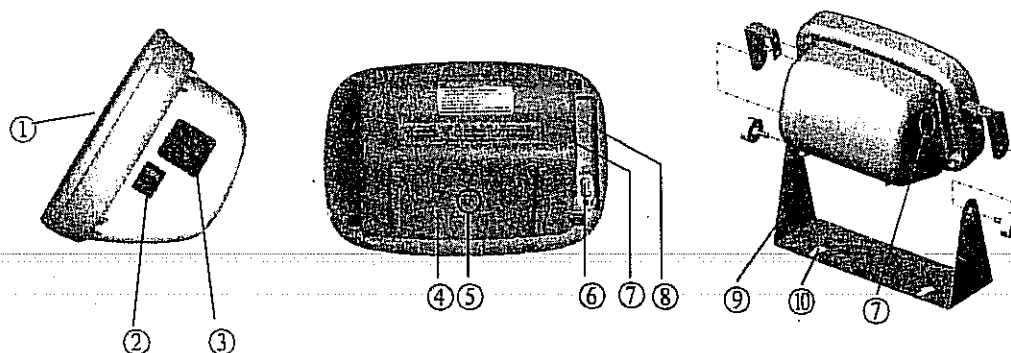

Figure 1: Appearance
5.7.1. The D-type 25-core outlet (Number ⑧ on Figure 1) or 3-core metal outlet (Number ⑦ on Figure 1) is used for RS-232C hardware interface, the outlet is mounted on back housing of the indicator. See the following drawing for details: